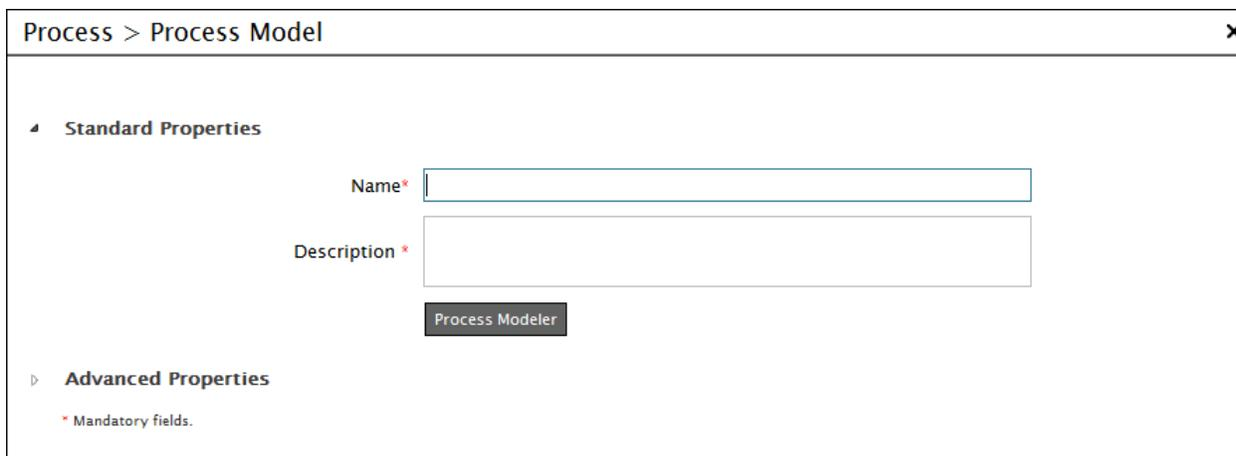

Figure 2: Create Process Model
3. Click the **Create New** link. This displays the *Create Process Model* screen (see Figure 2).